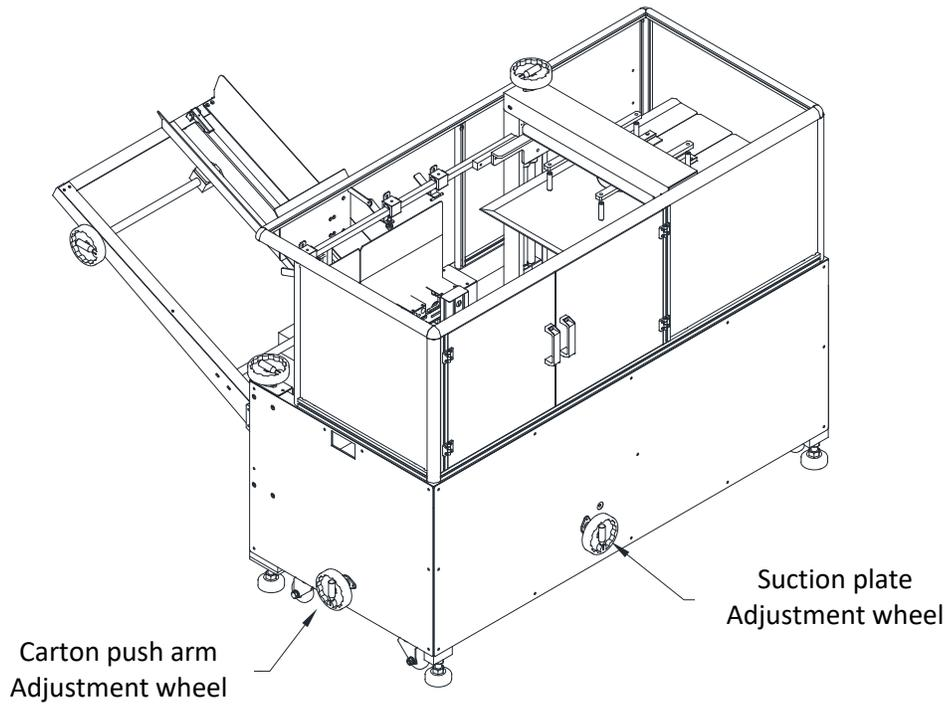
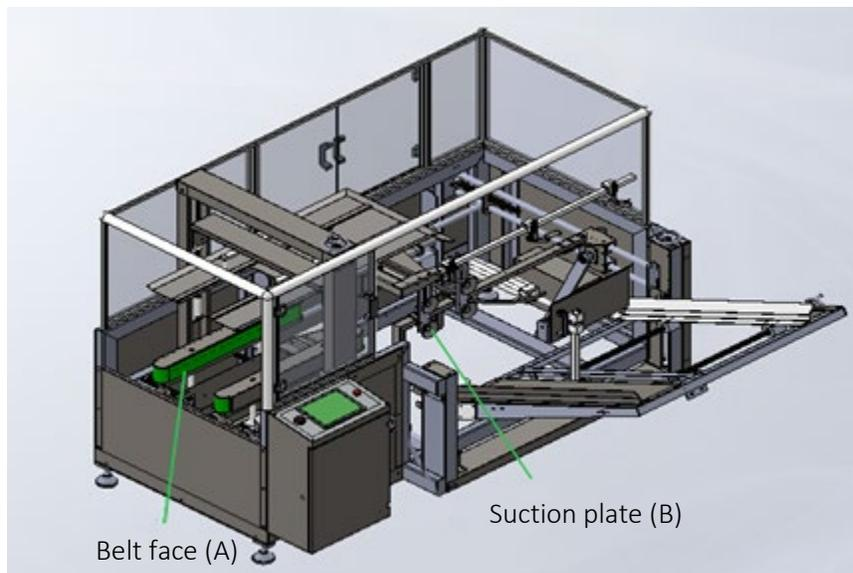

Fig. 2
Figure 3.
- 1) Fold a carton to size leaving the flaps on one end open (see fig.2)
- 4) Next, use the hand wheel in figure 2 to adjust the suction cup plate, lining it up with the belt face as seen in Figure 3. **The carton push arm will fail to push the case through the machine if this isn't set properly and the case will jam.**